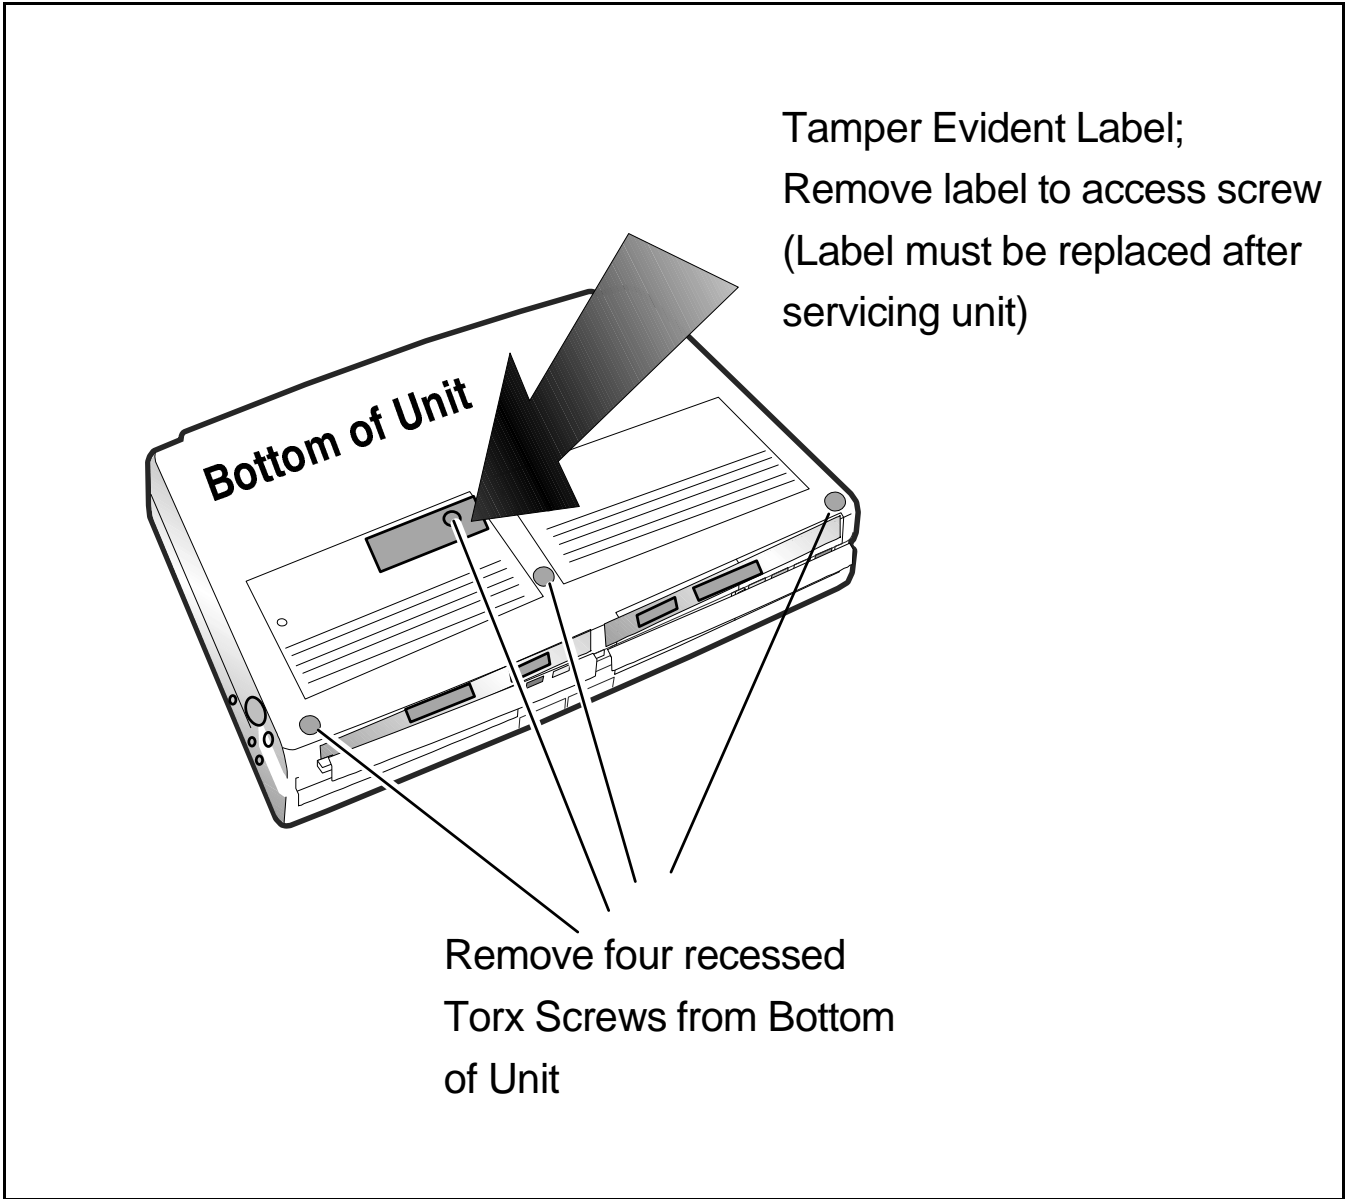

Figure 5-9 Opening the Base Cover
5. Close the Display Cover and flip the notebook over. Remove the three Torx head screws from the three recessed areas (Figure 5-9) using the long shank Torx driver. Then remove the Torx head screw located under the Tamper Evident Label near the Hard Drive assembly. Tape this set of screws together.